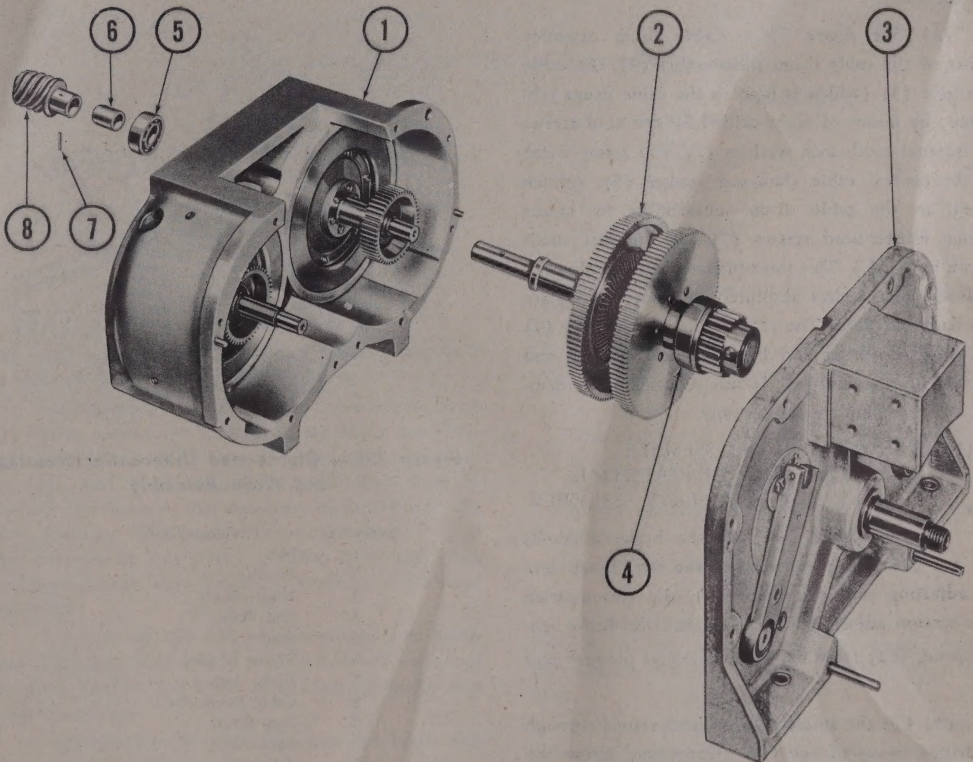

Figure 335 — Clutch and Differential Housing End Plate Removed
(c) (See figure 335.)—Remove the 9 remaining fillister-head screws and lock washers which secure the clutch and differential housing end plate assembly (3) to the housing (1). Note that there are screw spacers
(12) REMOVE AND DISASSEMBLE THE DIFFERENTIAL ASSEMBLY.
(a) (See figure 335.)—Support the limit shaft drive worm (8). Using a small pin punch, drive out the tapered pin (7) which secures this worm to the shaft.